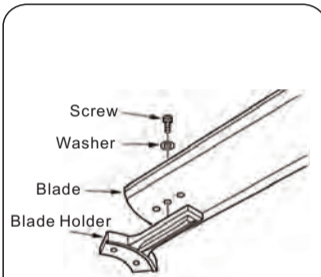

Fig.5
Step 1: Assemble the blade with blade holders with the provided blade attachment screws. (fig.5)